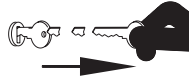

FIG. 3-19
3. Loosen the flange nuts on the width adjustment carriage bolts. (Fig. 3-19 and Fig. 3-20)